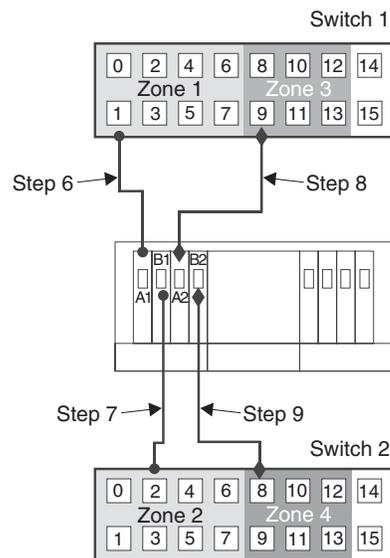

Figure 20. Storage subsystem connections to the Fibre Channel switches
6. Connect controller port A1 of the storage subsystem to an available port in Zone 1 of Switch 1 (Figure 20 on page 29).
7. Connect controller port B1 of the storage subsystem to an available port in Zone 2 of Switch 2 (Figure 20 on page 29).
8. Connect controller port A2 of the storage subsystem to an available port in Zone 3 of Switch 1 (Figure 20 on page 29).
9. Connect controller port B2 of the storage subsystem to an available port in Zone 4 of Switch 2 (Figure 20 on page 29).